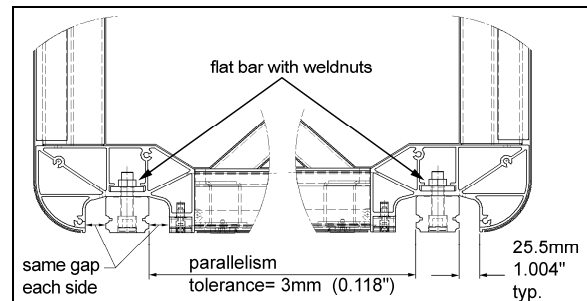

FIGURE 24 : RAIL POSITIONING
*The rail is bolted to a flat bar on which weldnuts are mounted. The flat bar is inserted in the slide-out lower body extrusion and can be removed through the end cap (FIGURE 24).*
8. Adjust the rail position with as per FIGURE 24. For each rail, make sure the gap is the same both side of the rail.